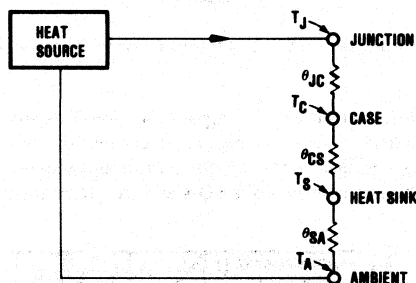

FIGURE 5. Simplified Steady-State Heat Flow Model.
8.4 Heat sinking. The OPA8785 requires a heat sink to limit output transistor junction temperature (TJ) to an absolute maximum of +200°C. The steady-state thermal circuit is illustrated in Figure 5.